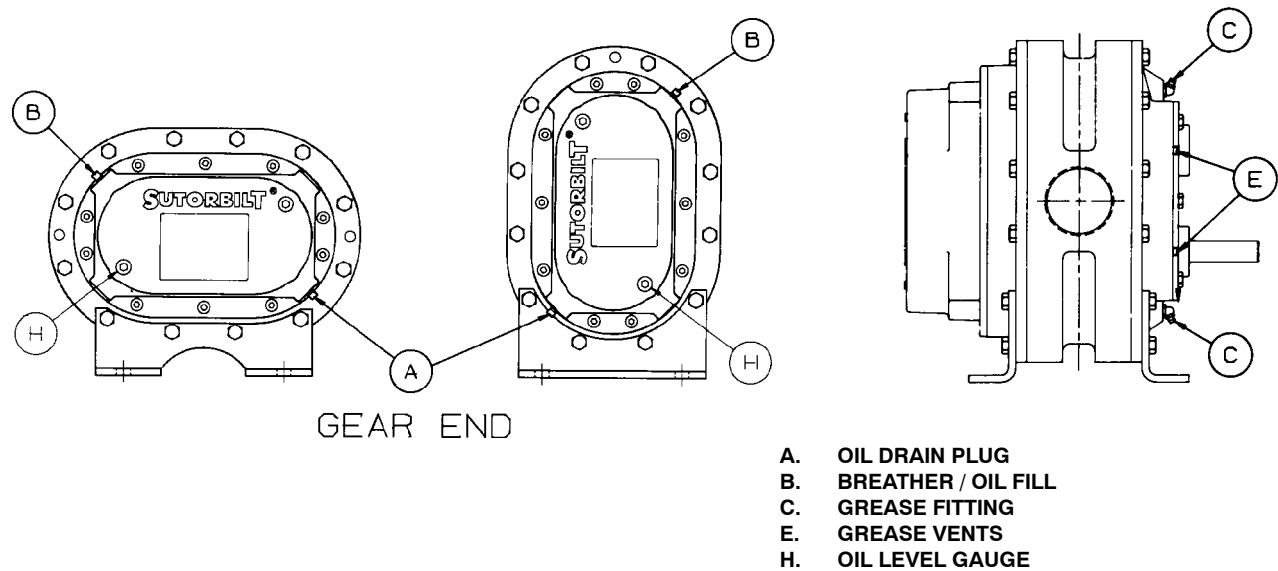

FIGURE 3 - LUBRICATION
When changing mounting configuration, it may be necessary to reposition vent plug (B), and drain plug (A). Refer to FIGURE 3, page 6, for correct location.
Refer to FIGURE 3. Remove the breather (B) from the gear cover. Add oil to the gear case until it reaches the center line of the oil level gauge (H). Secure breather (B) in its correct location.